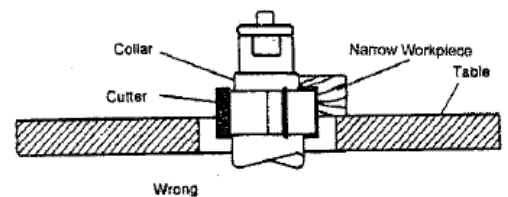

Fig. 13
- Under no circumstances should a small workpiece be shaped against the collars as shown in Fig. 13.